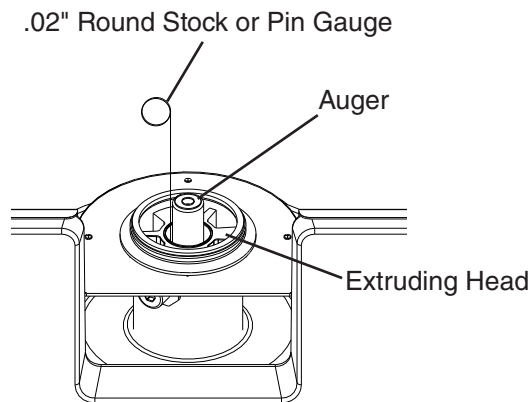

Fig. 6
- 6) Grasp the top of the auger and move the auger towards you and then try to insert a .02" round stock or pin gauge in between the back side of the auger shaft and the bearing surface. See Fig. 6. Check several locations around the auger shaft. If the gauge goes between the shaft and the bearing at any point or if the bearing is scratched or cracked, both the top bearing in the extruding head and the lower bearing in the housing should be replaced. Instructions for removing the extruding head and housing are located later in this procedure.